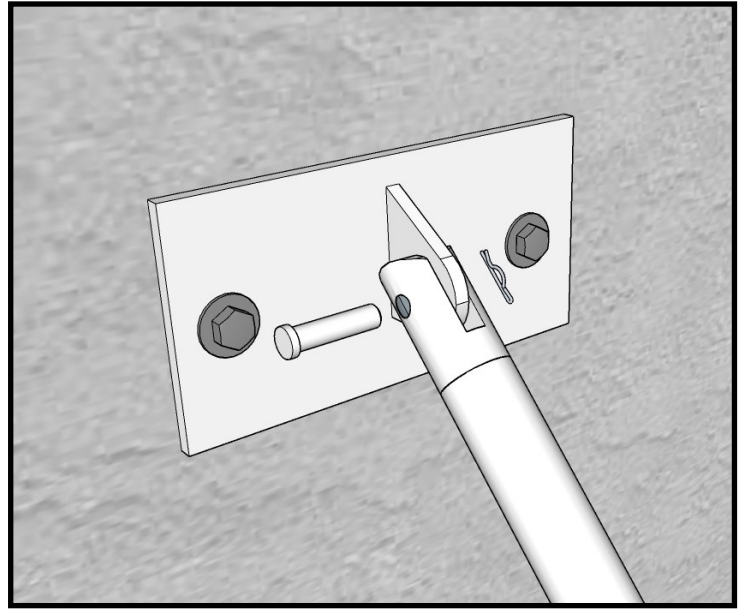
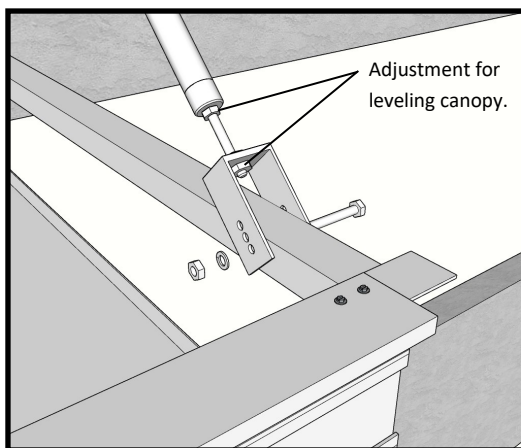

Fig 5
Fig 6
5. Attach tieback (#3) to upper clevis bracket (#1) with a clevis / bridge pin (see fig 5). Attach the Lower Clevis Channel (#5) to the lower end of the tieback and mount to the canopy structural member with 3/8"-16x3" bolt (see fig 6).